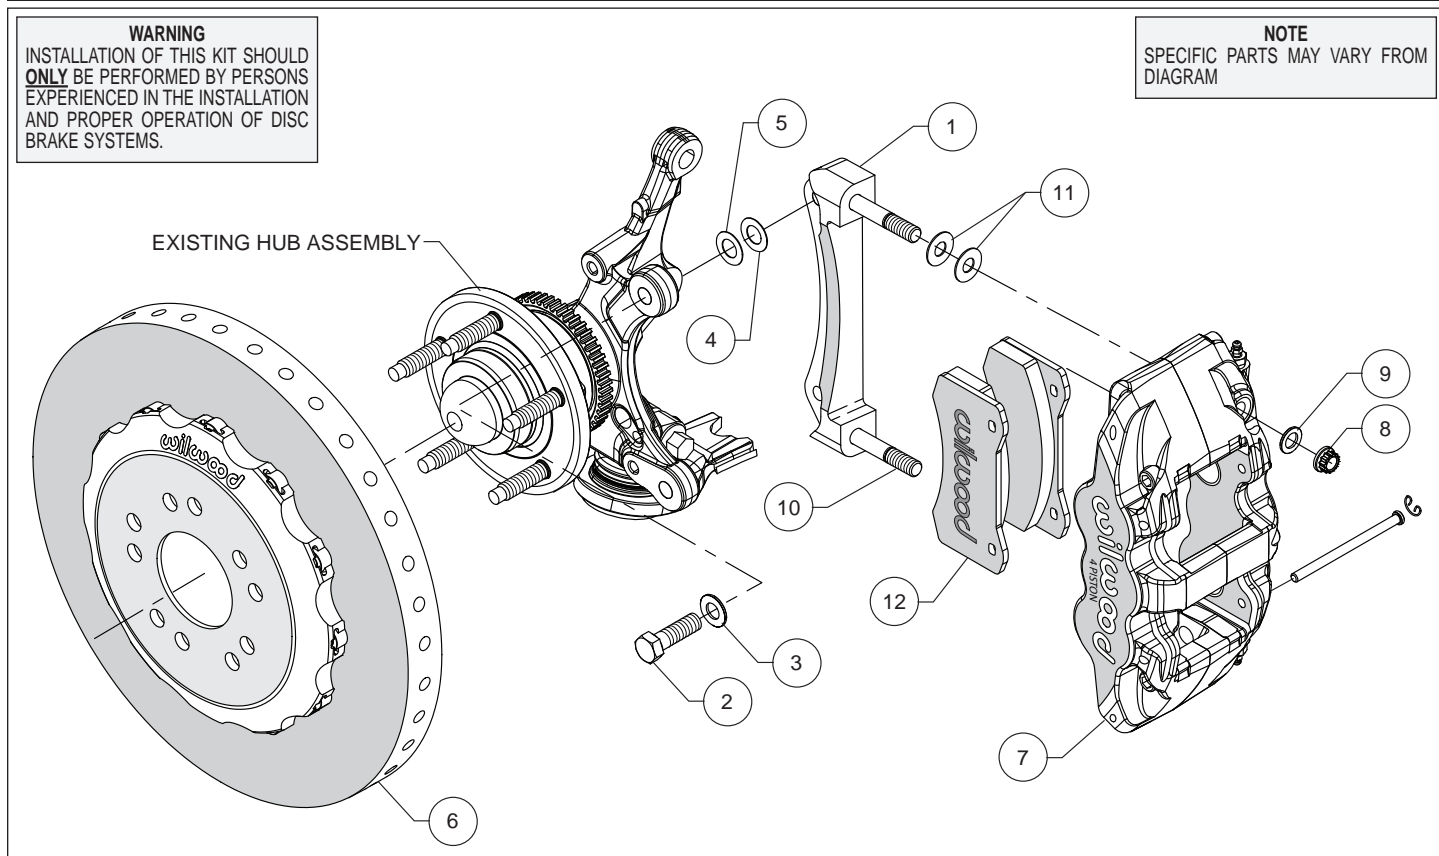

Figure 1. Typical Installation Configuration
Assembly Instructions (numbers in parenthesis refer to the parts list and Figure 1 on the preceding pages):
- The caliper mount bracket (1) should initially be installed with clean, dry threads on the mounting bolts. Orient the bracket, as shown in Figure 1 and Photo 1, and install using bolt (2) and washer (3). Initially place two .033" thick shims (4) on each bolt between the bracket and upright, Figure 1. Temporarily tighten the mounting bolts. **NOTE:** *The bracket must fit squarely against the mount bosses on the upright.* Inspect for interference from casting irregularities, machining ridges, burrs, etc. Later, after the caliper alignment has been checked, the mount bolts will be secured using red *Loctite*® 271.
- NOTE:** *This kit contains distinct right and left hand calipers that must be mounted in a specific direction, as described below.* Lubricate the caliper mounting studs (10) with lightweight oil. Initially place two .016" thick shims (11) on each stud between the caliper and the bracket, as shown in Figure 1 and Photo 2. Mount the caliper (7) onto the bracket (1) using lock nuts (8) and washers (9), Figure 1. Temporarily tighten the lock nuts. Ensure that the caliper is mounted so the largest pistons are at the rotor exit end of the caliper, in relation to the direction of the rotor. View the rotor through the top opening of the caliper. The rotor should be centered in the caliper, Photo 3. If not, adjust by adding or subtracting shims (4 and/or 5) between the bracket and the upright. Always use the same amount of shims on each of the two mounting bolts. Once the caliper alignment is correct, remove the bracket mounting bolts one at a time, apply red *Loctite*® 271 to the threads, and torque to 60 ft-lbs.
- Remove the two pad retaining pins from the caliper (7) by carefully popping out the pin retaining clips and sliding out the pins. Insert the brake pads (12) into the caliper from the bottom, Figure 1 and Photo 4. With the friction material facing the rotor, secure the brake pads in place with the pad retaining pins and clips, Photo 5. Reinstall the caliper onto the caliper mounting bracket and temporarily tighten the lock nuts. Check that the top of the brake pad is flush with the outside diameter of the rotor, Photo 6. If not, adjust by adding or subtracting shims (11) between the caliper and the bracket. After the caliper pad height is set, torque the caliper lock nuts (8) to 47 ft-lb.